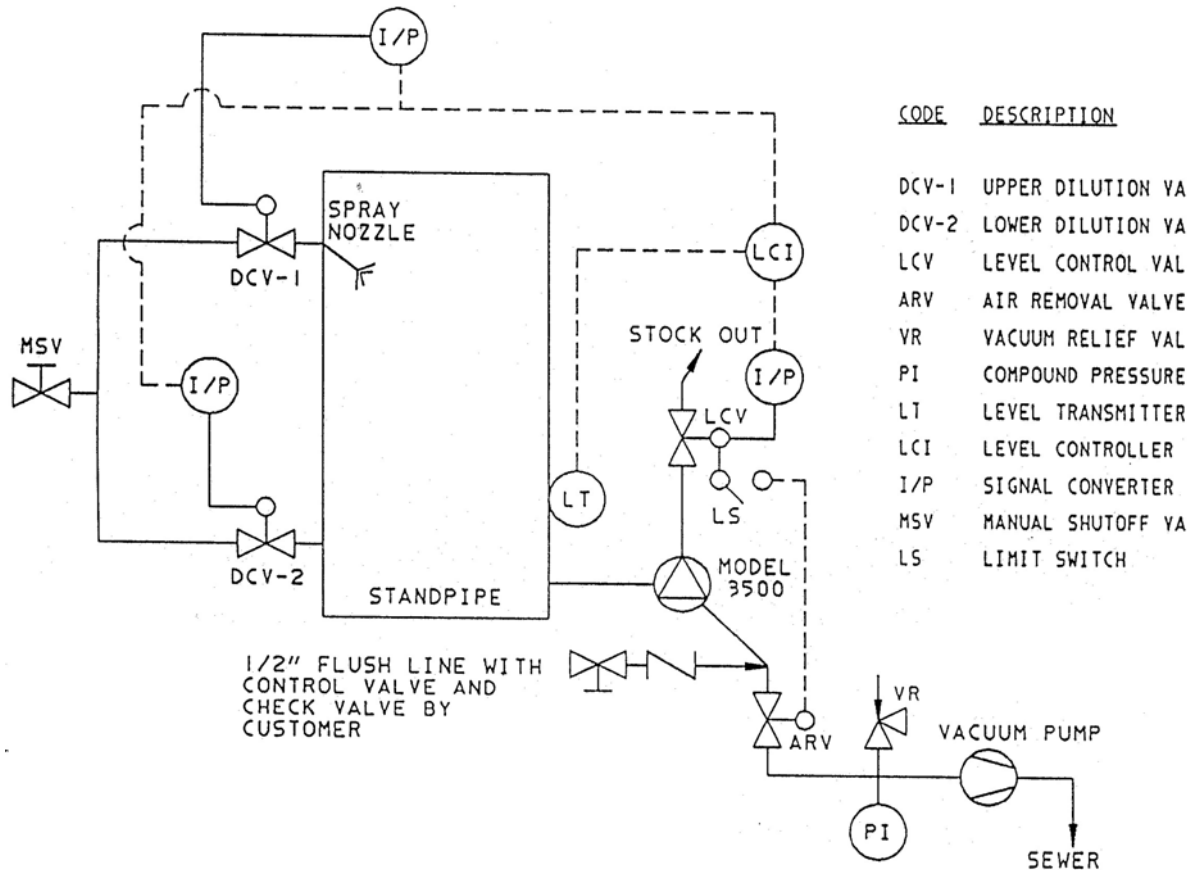

Figure 13:
5. Fill remainder of baseplate with grout. Remove air as before (Fig. 13).
See Figure 13: on page 23.